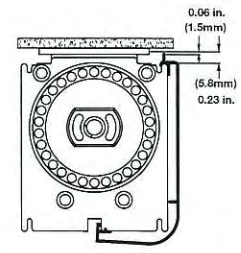

Figure 1b
2. Push the lower part of the fascia forward until the bottom hook snaps into the bracket. This must be performed at both ends of the fascia. (See Figures 1b, 2b, 3b, and 4b.)